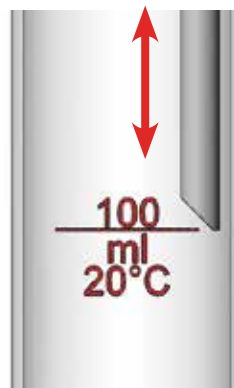

Figure 18 Overflow Tube Adjustment
6. Adjust the **overflow tube** up/down to align the tip of the tube with the graduation line on the **residue tube**. See Figure 18.